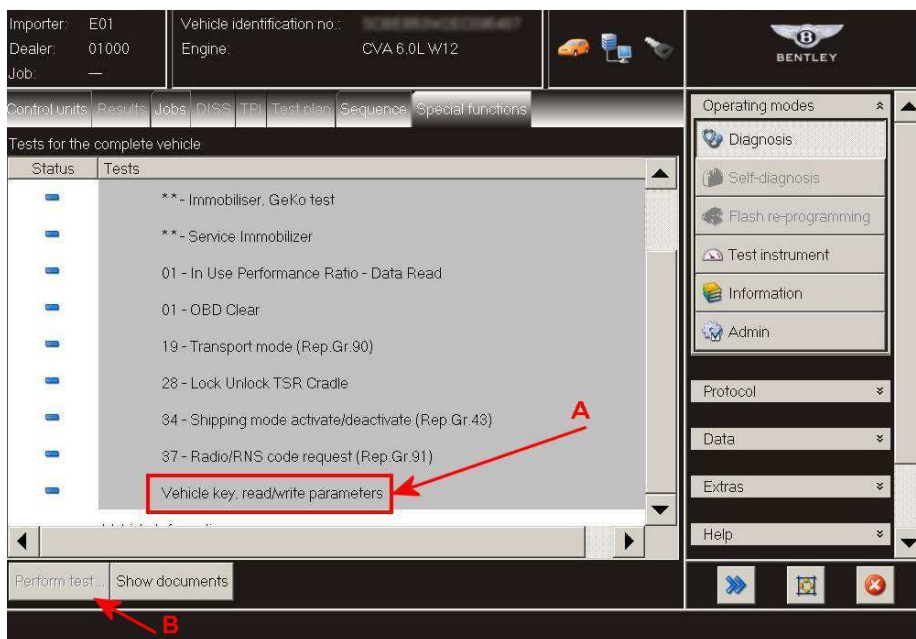
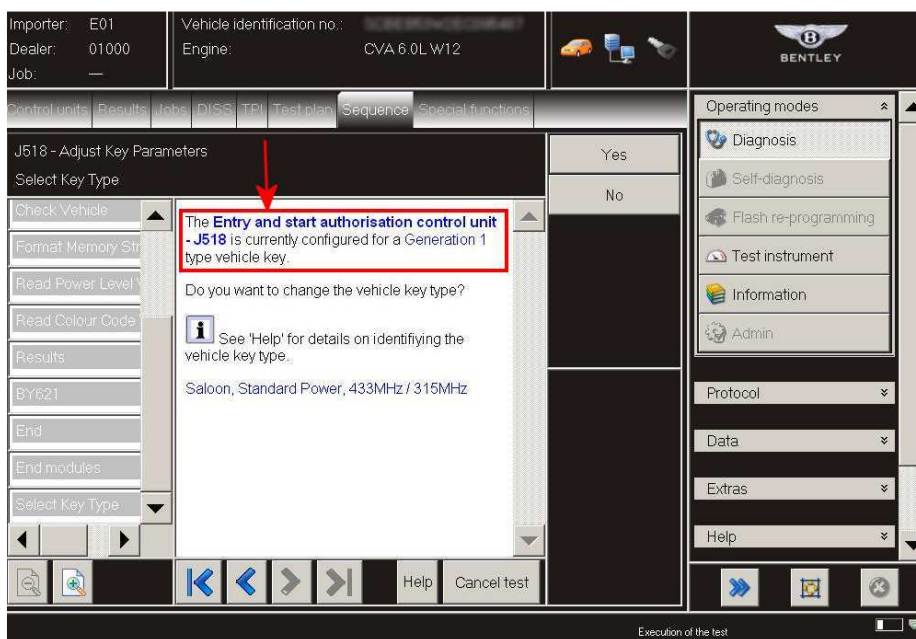

Figure 5
Figure 6
- Select Vehicle key, read/write parameters (Figure 5 Point A)
- Select Perform test (Figure 5 Point B) and follow all on screen prompts until you reach the screen shown in Figure 6
- Figure 6 confirms the Generation of the **Entry and start authorisation control unit -J518-**